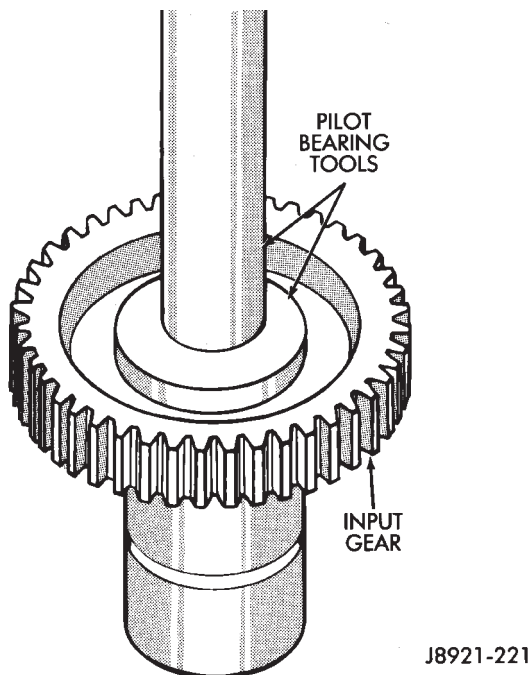

Fig. 43 Installing Input Gear Pilot Bearing
(10) Install new pilot bearing with suitable size installer tool (Fig. 43).